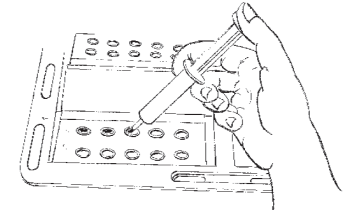

Fig. 1
**Application of the test substances.** Mark identification on the top of each tape to show the order of the test substances throughout the testing procedure. Remove the protective paper and place the tape on the desk or the Finn Chamber Tray with the chambers up (Fig. 1). Keep a narrow strip of the protective paper on the tape until the tape has been attached onto the skin.